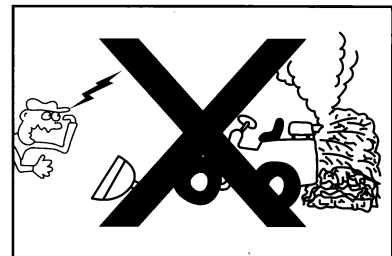

Figure 2-18
- When parking the machine, care should be taken to select the suitable parking location and its surrounding environment. And special attention should be paid to ensure that there is no withered grass, used paper and other combustibile material near the muffler of the machine. (Figure 2-18)